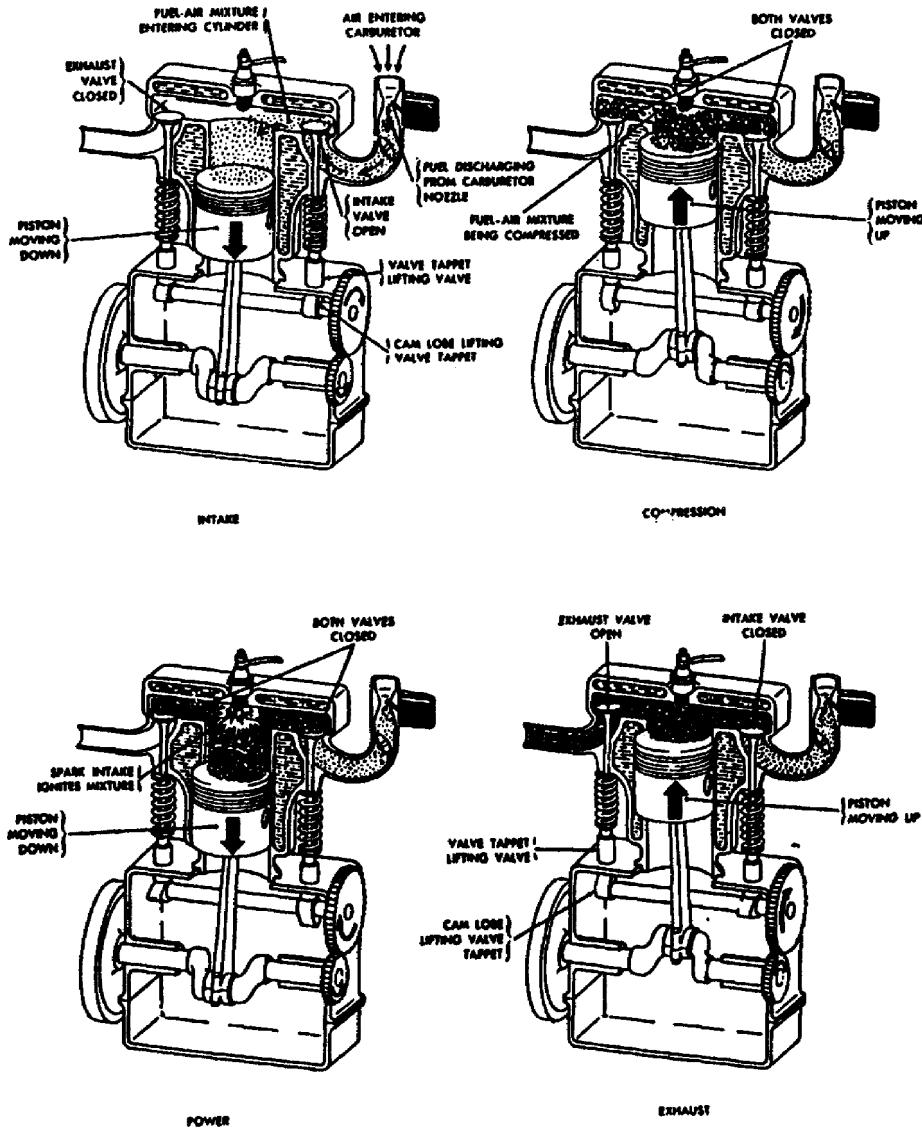

Figure 1-6. The Four Strokes in the Four-Stroke Cycle, Gasoline Engine.
3. Engine Operation. In any internal combustion engine, there is a definite sequence of events that must occur. The actions that take place within the engine cylinder may be divided into four basic parts, called strokes (Figure 1-6).
4. Four-Stroke and Two-stroke Engines. The engines described in paragraphs 2 and 3 and illustrated in Figures 1-6 through 1-10 are a four-stroke cycle engine. Four strokes of the piston, with two revolutions of the crankshaft and one revolution of the camshaft are required for the complete cycle of events. This type of engine is also called a four-stroke Otto-cycle engine because it was Dr. N.A. Otto who, in 1976, first applied the principles of this engine. In the two-stroke cycle engine, the entire cycle of events (intake, compression, power, and exhaust) takes place in two piston strokes.